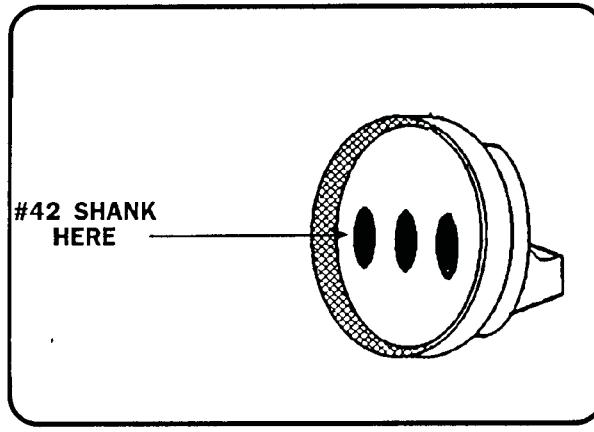

Figure 6
3. To check both 3 way connector for PRNDL and safety nuetral switch, use a #42 drill bit or a .0935 guage. See figure 6.